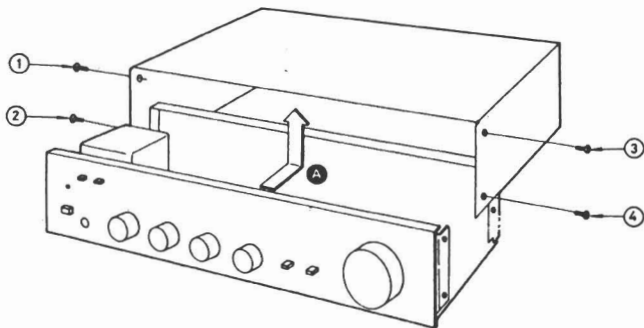
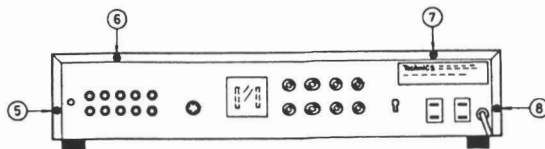

Fig. 1
Fig. 2
1. Remove the 4 setscrews (①~④ in Fig. 1) on the side and 4 setscrews (⑤~⑧ in Fig. 2) on the back of the cabinet.
2. Shift the cabinet backward and lift it upward. (Arrow A in Fig. 1)